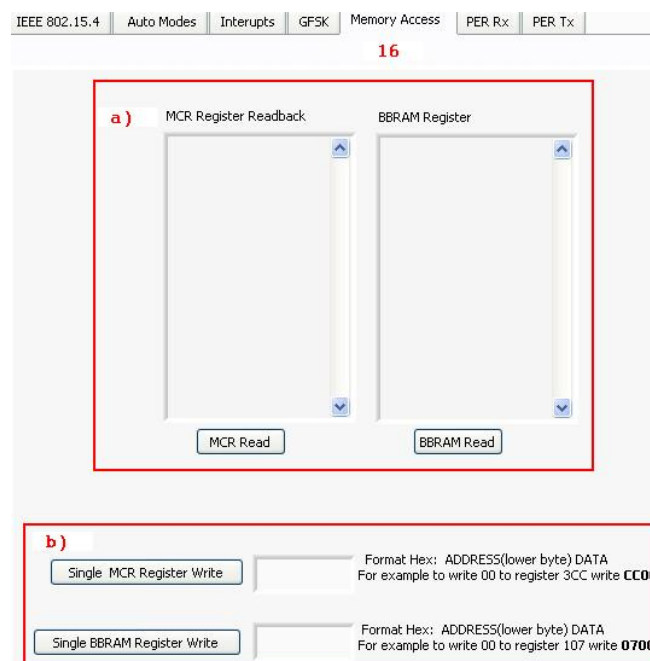

Figure 5: Memory Access tab
16. Figure 5 shows the Memory access tab.